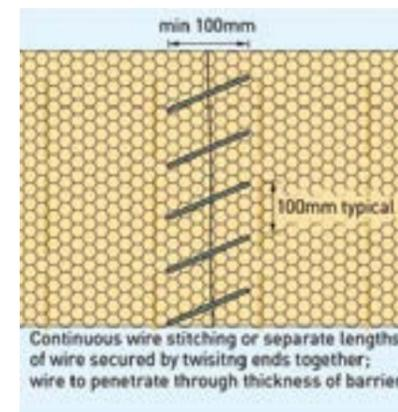

Figure 14 Joint in Barrier – Elevation
For periods of up to 60 minutes, ROCKWOOL Fire Barriers can be used for extended void heights between 3.5 and 6m without the need for a supported frame – see Figure 14 for joining barriers with overlap. For periods of up to 90 minutes, this drop height can be increased to 10.5m (9m for 120 minutes), by the use of a simple frame system constructed from slotted angles and straps (see 1½ and 2 hour support systems).
* Horizontal overlapped joint required (see fig.14)